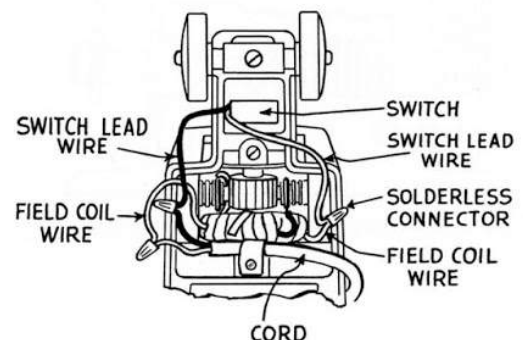

Fig. 2—Motor Wiring Diagram
- a. Detach **cleaner cord** from the field coil and **switch leads** by unscrewing the three solderless connections. See Fig. 2.